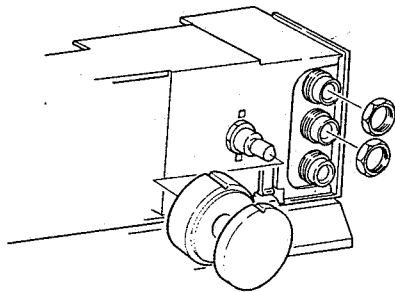

Fig. 7
4) Remove the REC knob and then remove 2 nuts. (See figure 7)